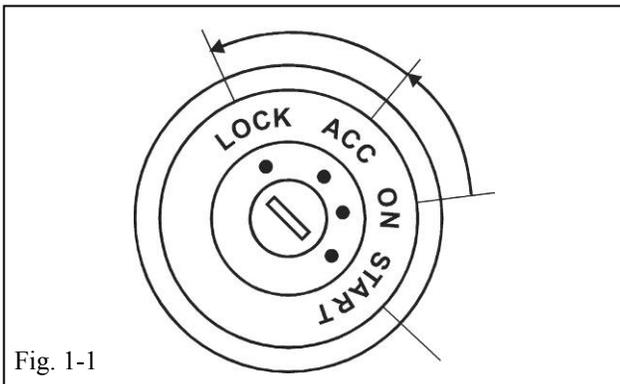

Fig. 1-1
- (b) Turn the key switch to the LOCK position. (Fig. 1-1)